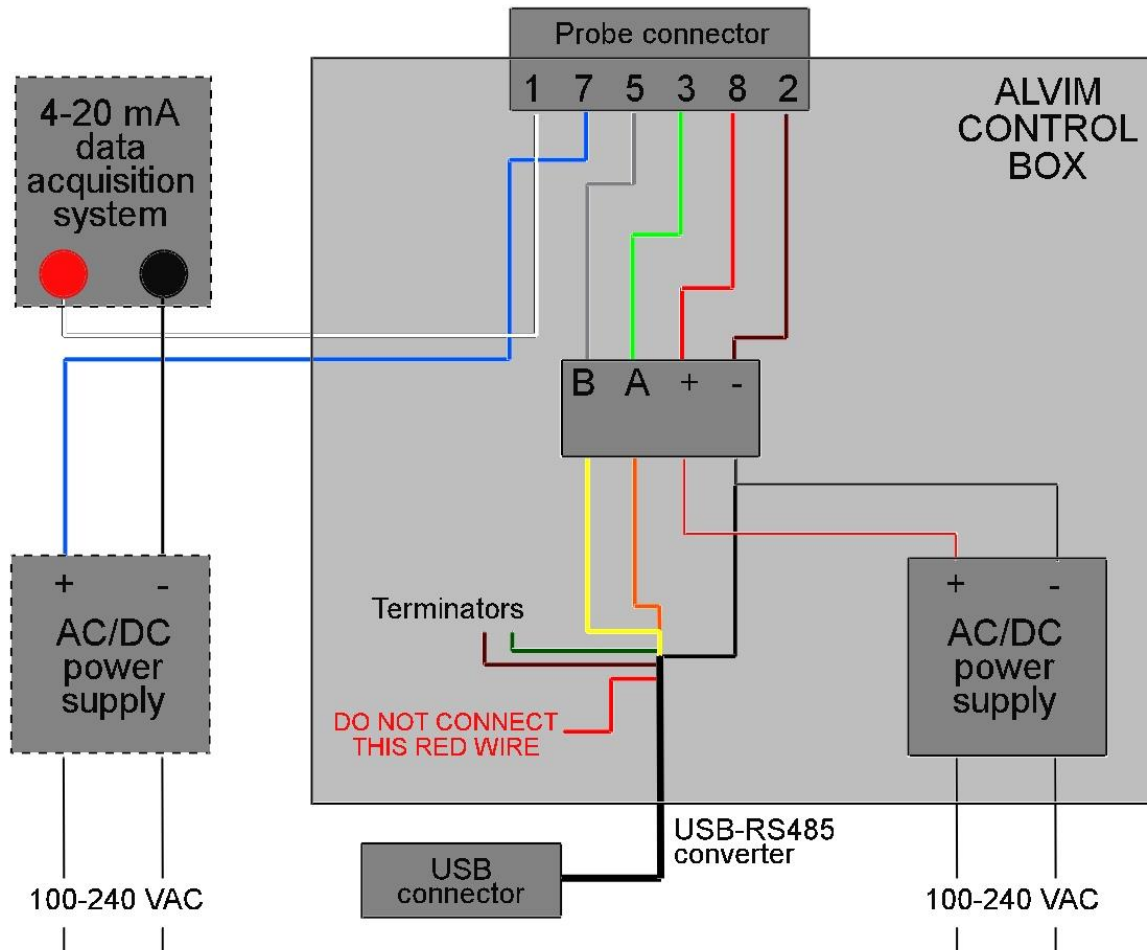

Figure 7: Control Box wiring.
2. Connect the Sensor to the data acquisition system (e.g. a PLC/DCS) and to the power supply through the data/power cable. Please note that an additional power unit is needed, to generate the 4-20 mA signal (different from the power unit used for the Sensor itself). **For wiring, please refer also to Figure 7.**
Figure 7 illustrates Control Box and RS485 to USB converter wiring. In case of long connections or noisy environments, it is advisable to enable the line terminator, short-circuiting BROWN and GREEN wires of the converter (**NOT THE WIRES OF THE PROBE CONNECTOR**).